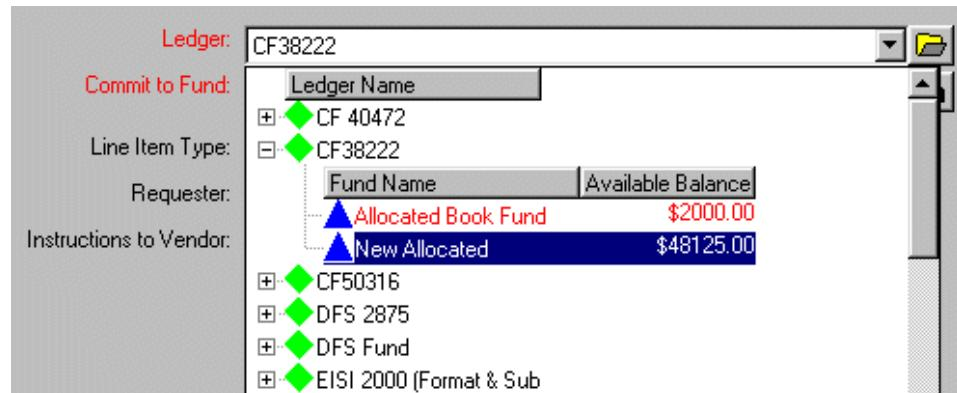

Figure 6-63. Ledger/Fund hierarchy displayed in the Ledger field
- If you want to select a fund from the ledger/fund hierarchy (Figure 6-63) rather than typing the fund code into the **Commit to Fund** field, click the **folder** button beside the **Ledger** field. This displays a hierarchy of available ledgers and funds. To aid you in selecting an appropriate fund, each fund's available balance displays within the hierarchy.